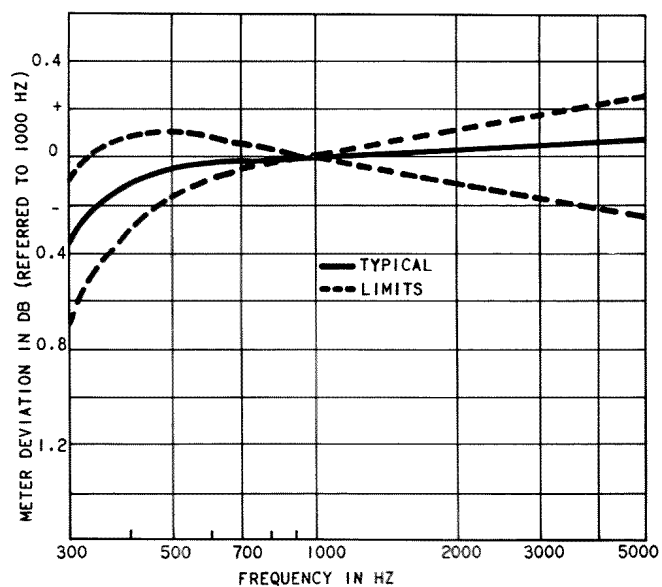

Fig. 7—Frequency Characteristic of the 23A and 23D Transmission Measuring Sets
3.17 Figure 7 shows the frequency characteristic of the 23A and 23D TMSs. The dashed lines show the frequency characteristic limits which might be expected because of component tolerances. The solid line represents the typical performance. In the frequency range of 400 to 5000 Hz, the frequency characteristic is practically flat, the maximum meter deviation being about 0.2 dB. In the range below 400 Hz, because of the effect of the low-frequency filter, the characteristic falls off—the meter deviation at 300 Hz being about 0.4 dB below the 1000-Hz reading. At 180 Hz, the overall response is down about 4.5 dB and at 60 Hz, about 30 dB.